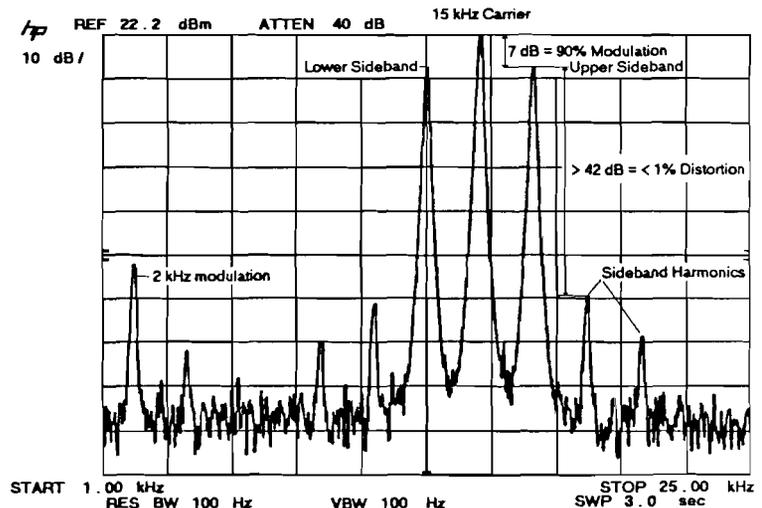

Figure 9-5. Amplitude Modulation Spectrum
4. Adjust the spectrum-analyzer frequency range to display the 15 kHz carrier, the sidebands, the harmonics of the sidebands and the 2 kHz modulation signal as shown in Figure 9-5.